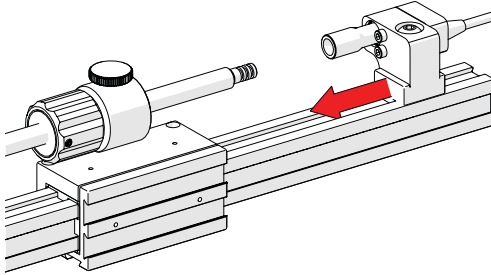
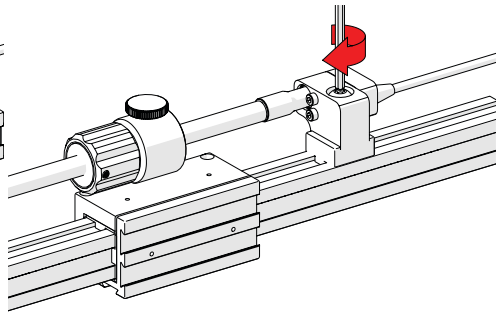

Fig. 135 - Loosen and slide post in place
Fig. 136 - Align and mount post
2. Slide the encoder's dovetail nut onto the frame bar (*Fig. 135*), continue sliding the encoder towards the leadscrew until the leadscrew and the encoder's coupling are attached (*Fig. 136*).
3. Tighten the encoder's lock screw (*Fig. 136*).